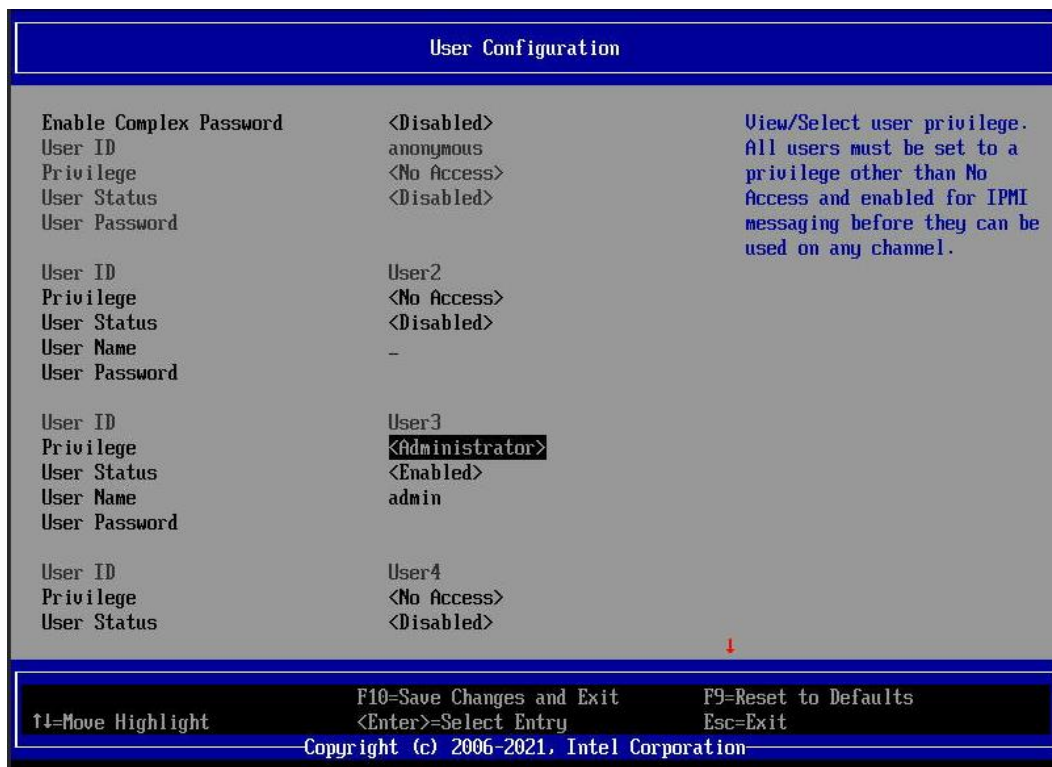

Figure 105. BIOS Setup User Configuration Screen
6. To change the User and Password, select **BMC User Configuration** to enter the User Configuration screen (Figure 105).